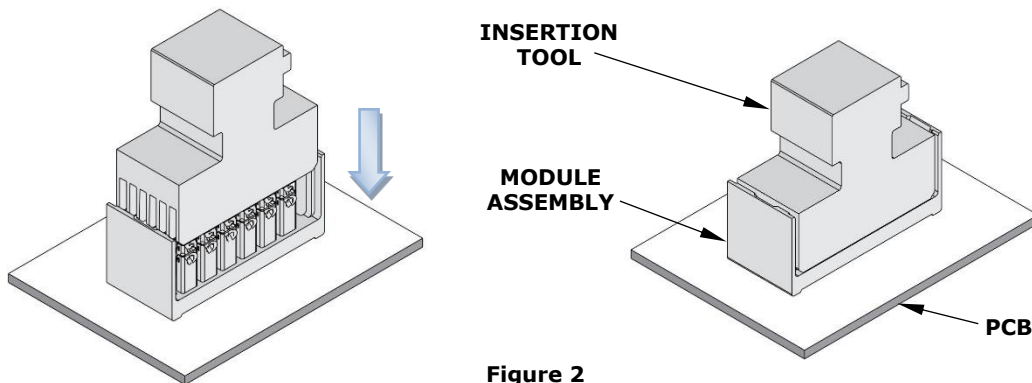

Figure 2
2. Place the tool into the module. The tool can be placed in either direction. See Figure 2.